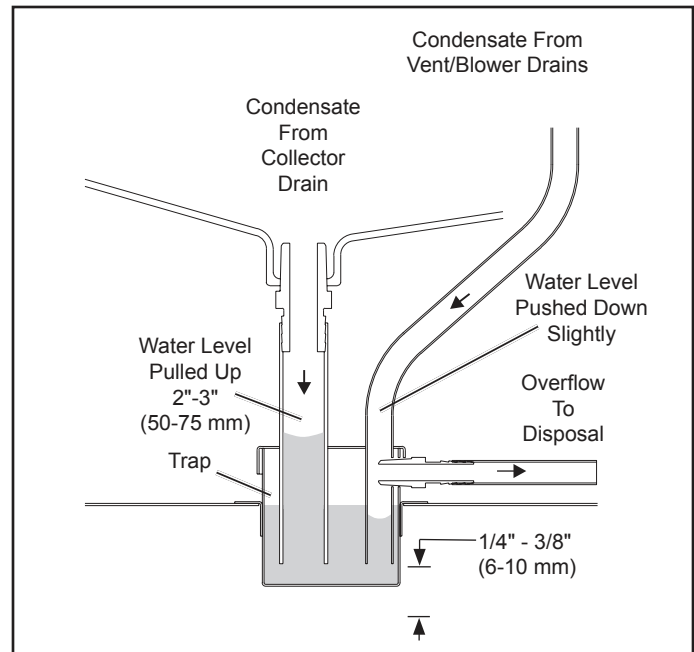

Figure 12. Condensate drain and trap.
**IMPORTANT** After placing the limestone neutralizer in the tray add water until the water level is at the same height as the overflow, see figure 12. Place the cover on the tray when this is done.